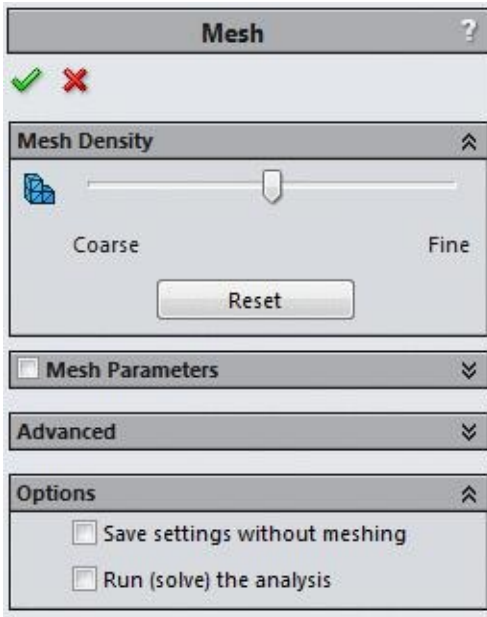

Figure-12. Mesh PropertyManager
- Click on the **Create Mesh** tool from the list. The **Mesh PropertyManager** will be displayed; refer to Figure-12.